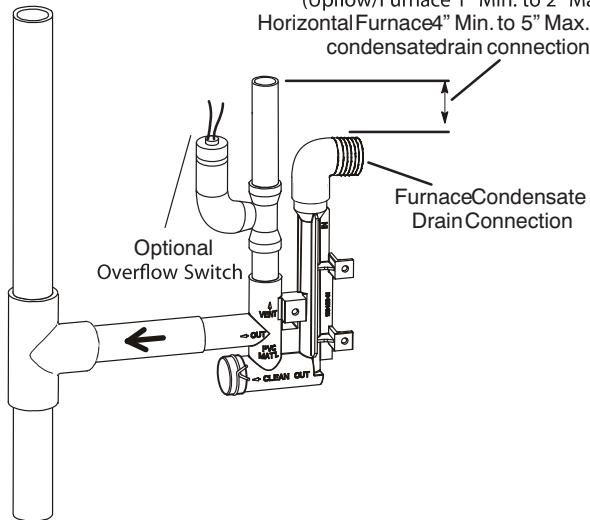

Figure 50
- 5 - Figure 49 and Figure 51 shows the furnace and evaporator coil using a separate drain. If necessary the condensate line from the furnace and evaporator coil can drain together. See Figure 50, Figure 52 and Figure 53. Upflow furnace (Figure 52) - In upflow furnace applications the field provided vent must be a minimum 1" to a maximum 2" length above the condensate drain outlet connection. Any length above 2" may result in a flooded heat exchanger if the combined primary drain line were to become restricted. Horizontal furnace (Figure 53) - In horizontal furnace applications the field provided vent must be a minimum 4" to a maximum 5" length above the condensate drain outlet connection. Any length above 5" may result in a flooded heat exchanger if the combined primary drain line were to become restricted.